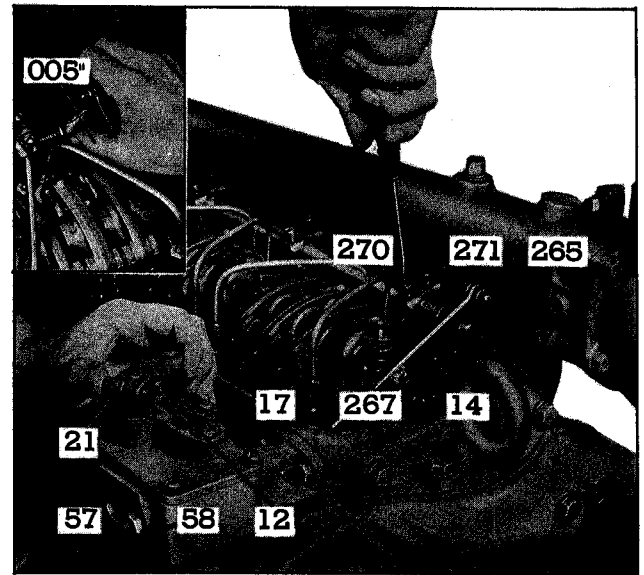

Fig. 5—Positioning No. 1 Injector Control Rack Lever.
1. Place governor control lever (21), Fig. 5, in the NO FUEL position.
- Place governor control lever (21), Fig. 5, in the NO FUEL position.
- Remove fuel rod (14), Fig. 5, between the governor and injector control tube lever (265).
- Refer to Fig. 5 and disconnect any linkage attached to control lever (21).
- Loosen lock nut (58) and back out buffer screw (57) approximately $\frac{3}{8}$ ".
- Loosen all inner adjusting screws (270) and outer adjusting screws (271). Be sure all control levers (267) are free on the injector control tube.
- Move control lever (21) to the FULL FUEL position as shown in Fig. 5. Turn inner adjusting screw down until a slight movement of the control lever is observed. Tighten outer adjusting screw.
- With the governor control lever held in the FULL FUEL position, check for a slight movement of the injector control tube lever as shown in Fig. 5. This movement should not exceed .005".